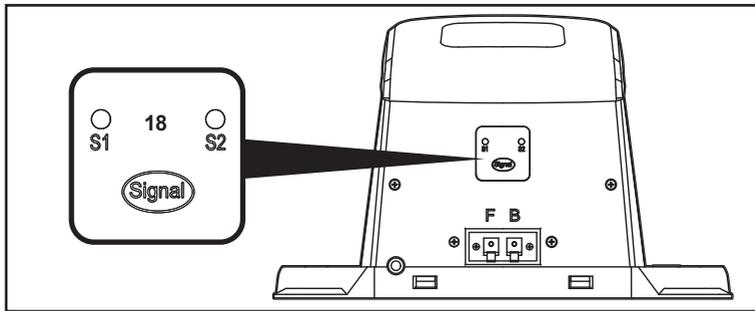

Fig. 25
- Connect the switching power supply (20) to a suitable socket outlet. Once the charging station is powered, one of the signal indicators (18) lights up blue (Fig. 25).